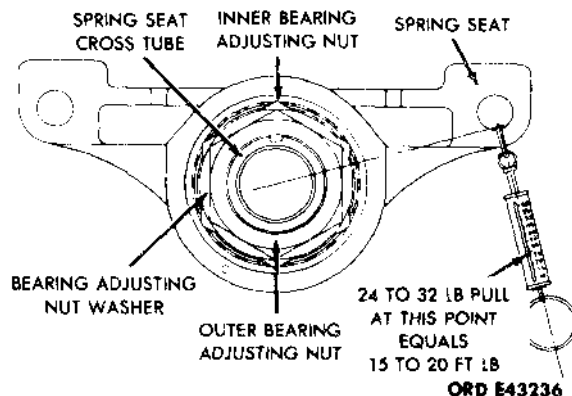

Figure 2-217. Spring seat bearing adjustment.
(1) Remove the wheels from both rear axles (para 2-207) to provide access to the spring seat to be adjusted.
(2) Place the jack under the cross tube connecting the left and right spring seats (fig. 2-217). Raise the jack sufficiently to hold the tube in position.
(5) Place two jacks under the spring, one on each side of spring seat. Raise the spring clear of the seat sufficiently to permit some rotation of the spring seat around the end of the cross tube (fig. 2-217).
(6) Hook the end of a tester scale in the clamp bolt hole (fig. 2-217), and pull downward on the scale, noting the pull required to rotate the spring seat on the cross tube.
(7) When the bearings are correctly adjusted, the pull on the scale required to rotate the spring seat is 24 to 32 pounds. This is equal to 15 to 20 lb-ft preload on the bearings.
(8) Remove the six capscrews and lockwashers from the spring seat cap. Remove the cap from the spring seat assembly. Remove and discard the cap gasket.
(9) Remove the outer bearing adjusting nut (fig. 2-217) and the bearing adjusting nut washer from the cross tube.
(10) Turn the inner bearing adjusting nut (fig. 2-217) until a pull of 24 to 32 pounds on the scale is required to rotate the spring seat.
(11) Install the bearing adjusting nut washer and outer bearing adjusting nut on the cross tube. Tighten the nut. Check the bearing adjustment as described in (6) above.
(1) Disconnect the spring seat from spring as described in (1) through (5) above.
(2) Remove the six capscrews and lockwashers from the spring seat cap. Remove the cap from the spring seat assembly. Remove and discard the cap gasket.
(3) Remove the outer bearing adjusting nut (fig. 2-217), bearing adjusting nut washer and the inner bearing adjusting nut from the cross tube.
(4) Pull the spring seat with the outer tapered roller bearing cone from the spring seat.
(5) Remove dust seal washer, two dust seals, wiper retainer, wiper, grease seal and two bearings and cups from spring seat.
(1) With the inner tapered roller bearing cone in position on the cross tube (fig. 2-217), install the spring seat assembly on the cross tube so that the cone enters the bearing cup in the outer bore of the seat.
(3) Install the inner bearing adjusting nut on the end of the cross tube, and adjust the bearings as described in paragraph *a* above.